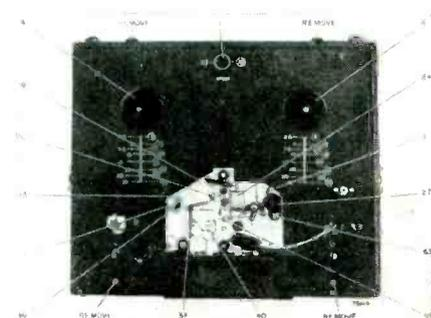

Fig. 2 — Parts shown in this view may be checked in Parts List.
3. Using a pencil type postal scale secured or hooked to the end of the pressure pad mounting spring (item 33, Fig. 2 and Fig. 7), check the amount of pressure necessary to just pull the pad from the tape.
4. Optimum pressure of the pad occurs at a reading of $1\frac{3}{4}$ ounces $\pm \frac{1}{4}$ ounce. The record-play head pressure pad is adjusted by the adjustment screw (item 40, Fig. 2 and Fig. 7). Unlocking and rotating this screw clockwise increases pressure. Unlocking and rotating this screw counter-clockwise decreases pressure. Be sure to relock the screw after completing this adjustment.
5. The guide post pressure pad (item 39, Fig. 2 and Fig. 7) must be adjusted for minimum pressure against the tape. This adjustment is made by bending the pressure pad spring in or out with a pair of long-nosed pliers.
(item 113, Fig. 2 and Fig. 7) to see if it is parallel with the tape. If it is not, loosen the retaining screw (item 19, Fig. 2) just enough so that the head can be pivoted into a parallel position and then retighten the screw.
4. Look at the tape and the erase head from the forward view to determine if the top edge of the tape coincides with the top end of the diagonal slot in the erase head. If they are not coincident, correction is made by adjusting the level of the tape. To do this, loosen the lock nut (item 17, Fig. 2) atop the tape guide post and rotate the guide post to move the tape up or down. Tighten the lock nut.
5. After this adjustment has been made, depress the RECORD key and observe whether or not the tape moves forward approximately 1/64". If not, loosen the forward adjustment screw (item 20, Fig. 2) and turn the screw in or out as required to obtain this 1/64" adjustment. Tighten the lock nut on item 20.